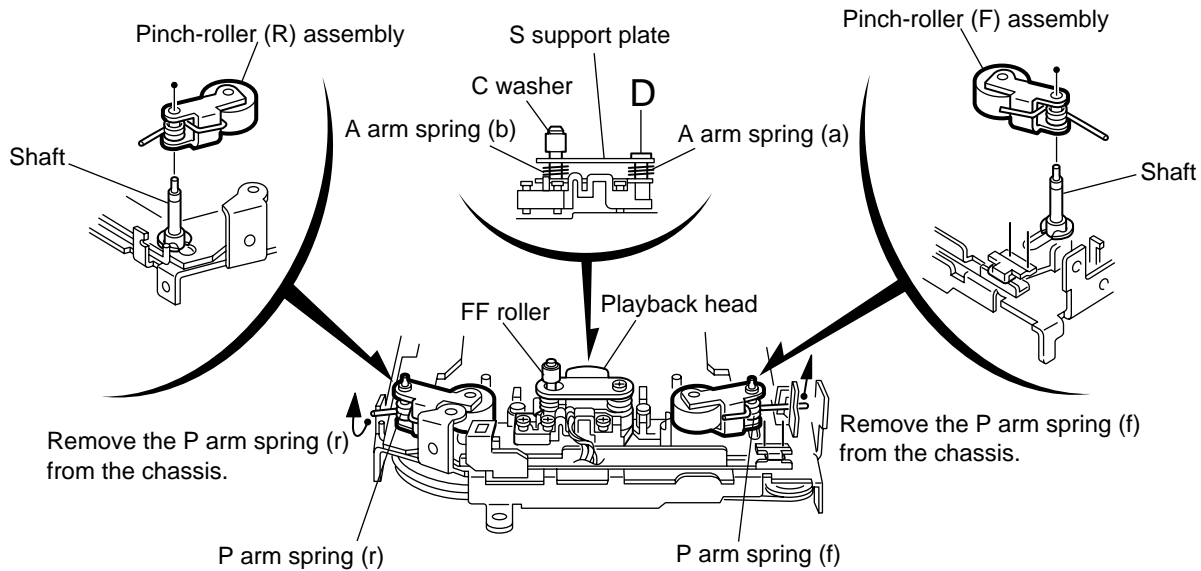

Fig.2
**■ Removing the playback head (See Fig.2)**
**■ Removing the pinch-roller (R) and (F) assembly (See Fig.2)**
1. Remove the **P** arm spring (f) in the pinch-roller (F) assembly from the chassis.
2. Remove the **P** arm spring (r) in the pinch-roller (R) assembly from the chassis.
3. Draw out the pinch roller (F) and (R) assembly from the shaft.